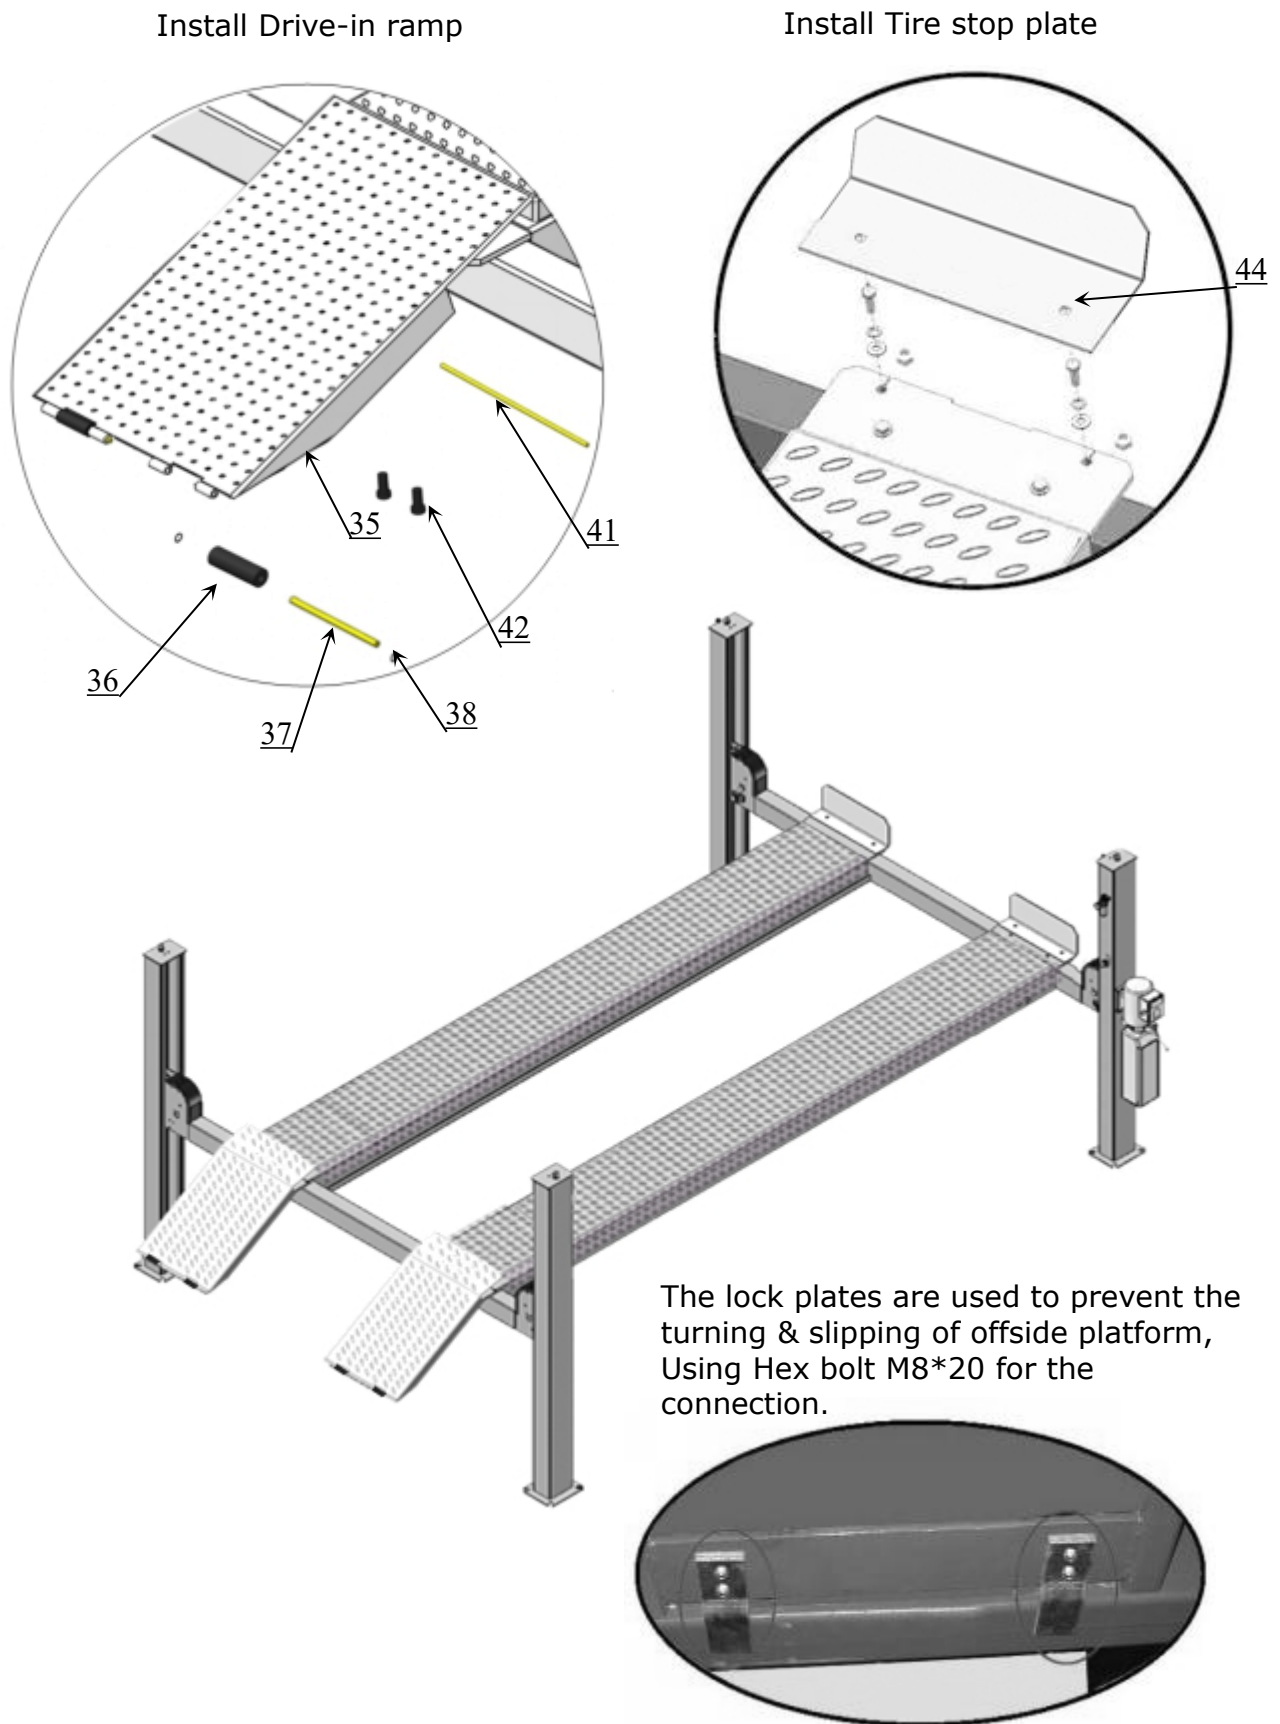

Fig.45
P. Install drive-in ramp, tire stop plate, platform lock plates (See Fig. 45)